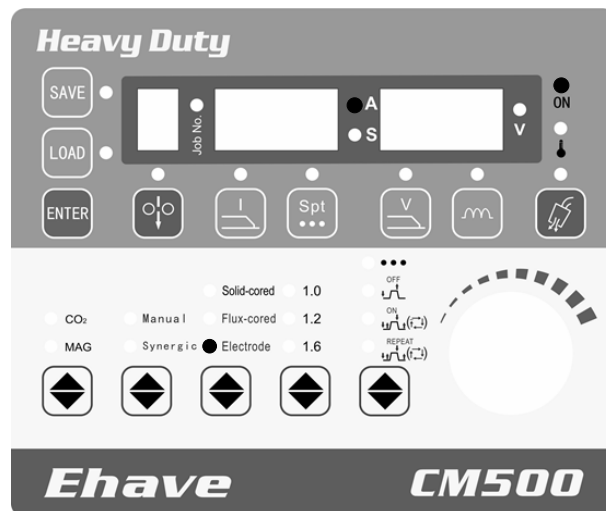

Figure 3-41 Selecting the mode of manual arc welding
3. Perform welding after the parameters are set. See Figure 3-41.